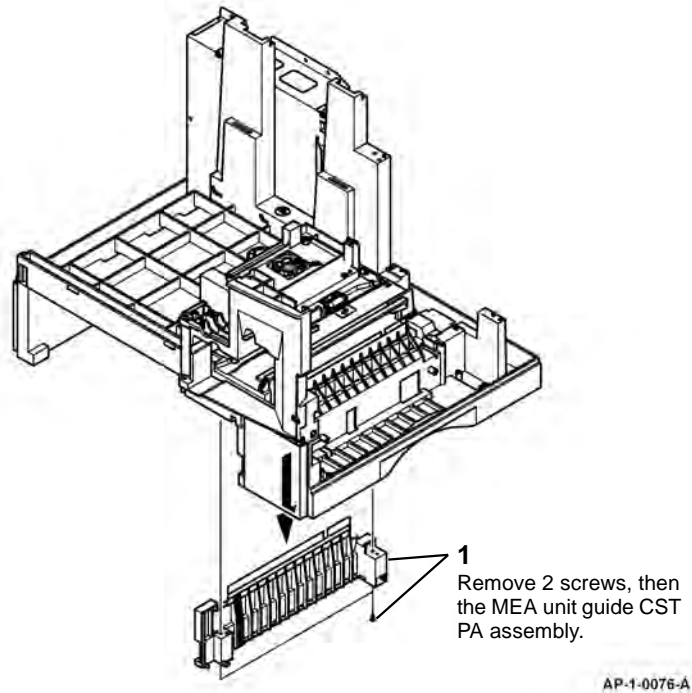

Figure 2 MEA unit guide CST PA assembly removal
4. Remove the MEA unit guide CST PA assembly, Figure 2.